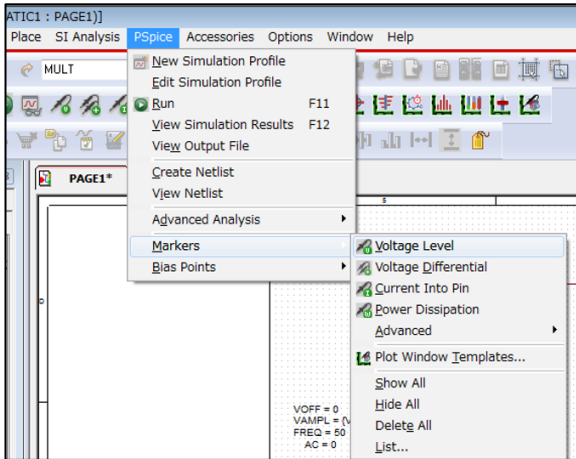

Figure 5.8 Selecting a marker type
1. From the menu bar of OrCAD Capture, select **PSpice - Markers** and then a type of marker as shown in Figure 5.8.